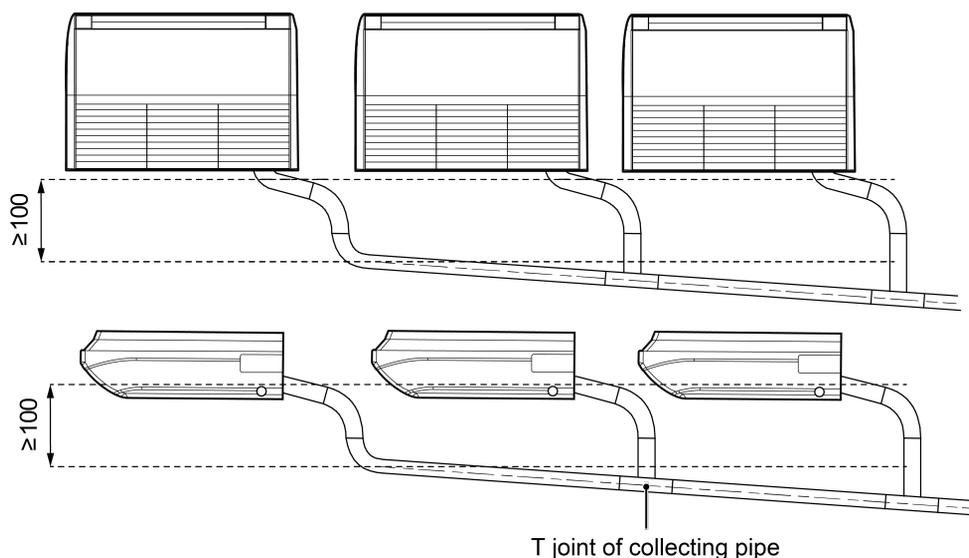

Fig.4.3.2.1
- (1) Drainage pipe should have the same diameter or larger diameter than the connection pipes (PVC pipe, outside diameter 17mm, thickness \geq 1.75mm).
- (2) Keep drainage pipe short and sloping downwards at a gradient of at least 1% for preventing forming air bubbles.
- (3) Insert the drainage hose into drain socket, tighten the metal clamp securely.
- (4) Warp the sealing pad over drain hose and metal clamp for heat insulation.
- (5) Make sure to perform insulation work for all drainage piping in order to prevent any possible water drop due to dew condensation.
- (6) Apply the suitable diameter for converging drainage pipe according to the operating capacity of the unit, as shown in Fig.4.3.2.1.